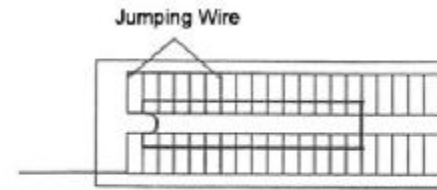

Figure 5 Illustration of placing device in case 'VCC-24' is shown
b) The display showing VCC-numbers with a long treble sound prompt means the tested device is a special VCC pin devices. The position of the VCC pin is the number the display shows. At this time the user should align the first pin of tested device with the second pin of the ZIF socket and insert the tested device into ZIF socket and lock. Then connect the VCC to the pin number of the device the display shows with a jumping wire as shown in figure 5. Press 'PASS/FAIL Verifying' or 'Dynamic Burn-in' key again.